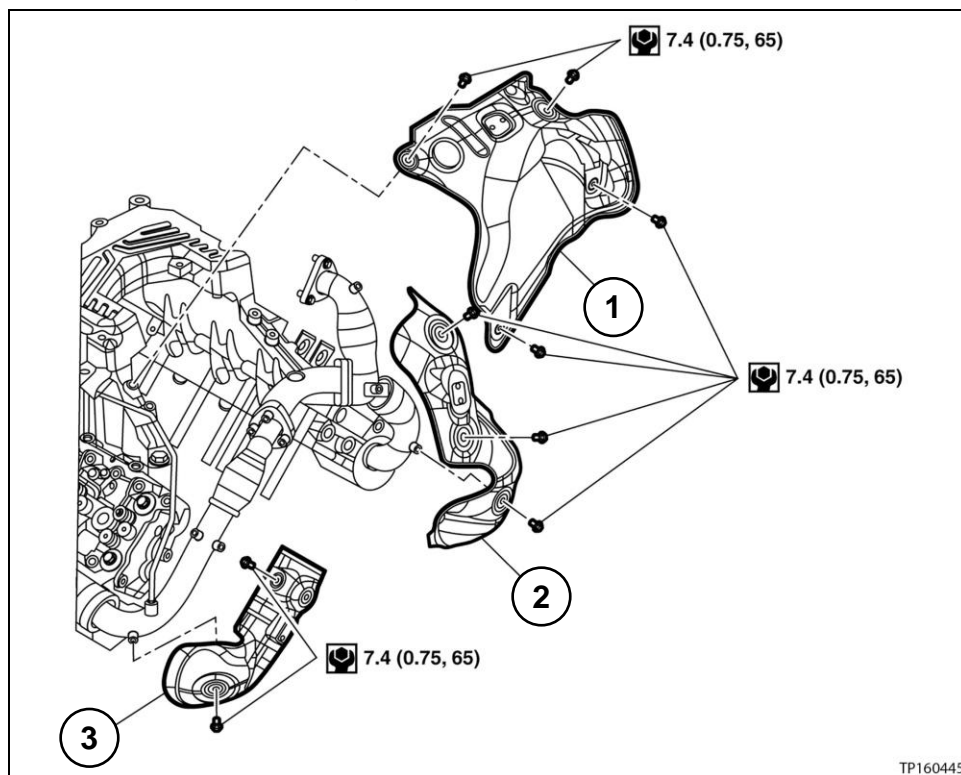

Figure 109
46. Install all three (3) heat shields, center heat shield last. See Figure 109.